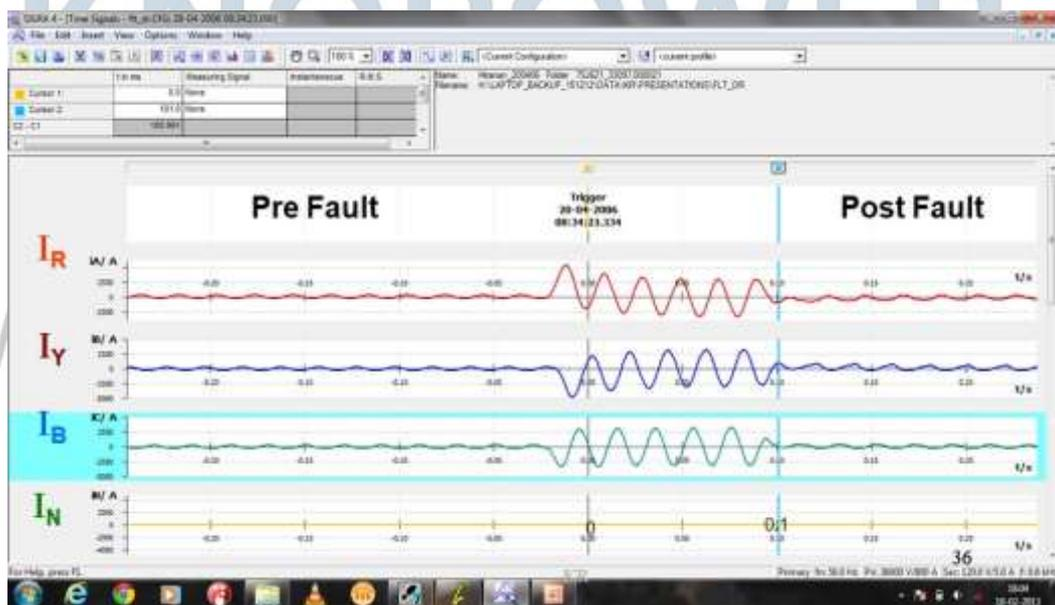

Figure 3
4.0 The advantage of having numerical relay is that the fault current waveforms can be captured and later used for post mortem analysis. One such waveform is shown in Fig 3. Prenc of DC component introduces asymmetry (positive and negative half cycles are not symmetric with respect to time axis) and it is more pronounced on R phase.